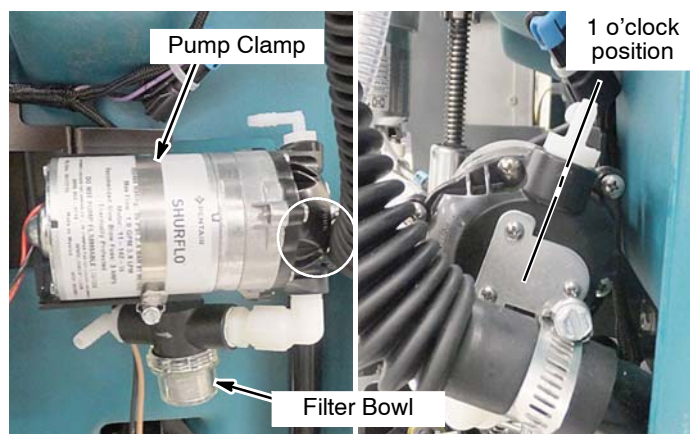

Fig. 18
4. Position the pump assembly as shown and tighten clamp (Figure 18). The pump should slightly touch drain hose.